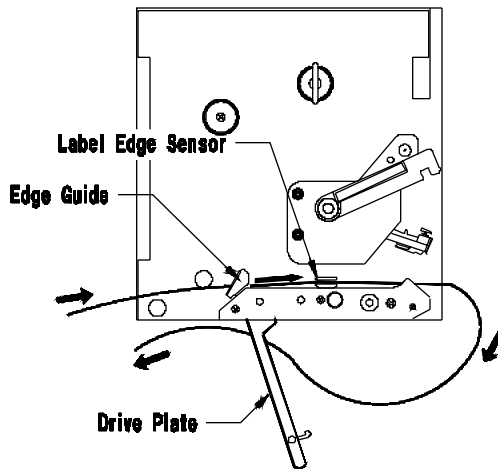
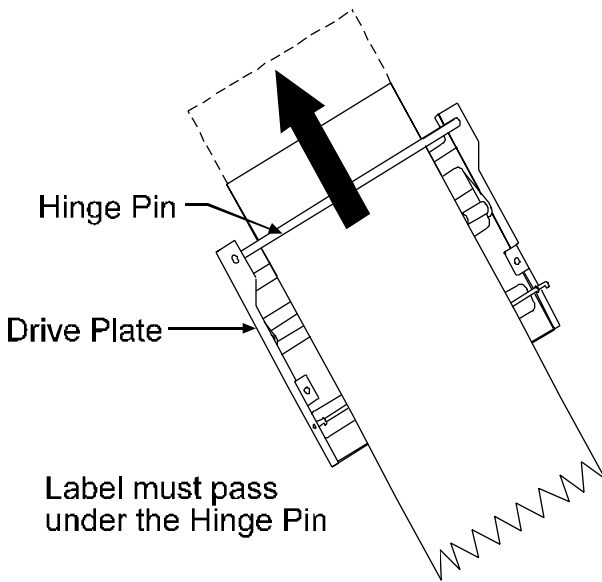

Figure 3-4 Media Loading
Figure 3-5 Media Loading (detail)
- 4 Feed the liner as shown in Figure 3-4. Be sure that the liner passes through the “fingers” of the Label Edge Sensor. Continue feeding the liner, bringing it under the Drive Plate Hinge Pin (see Figure 3-5). Pull through removing any slack.